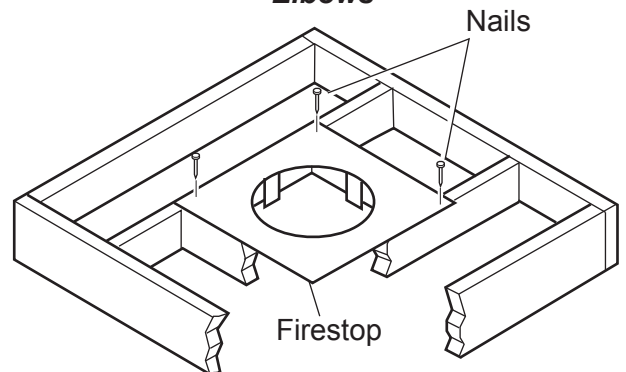
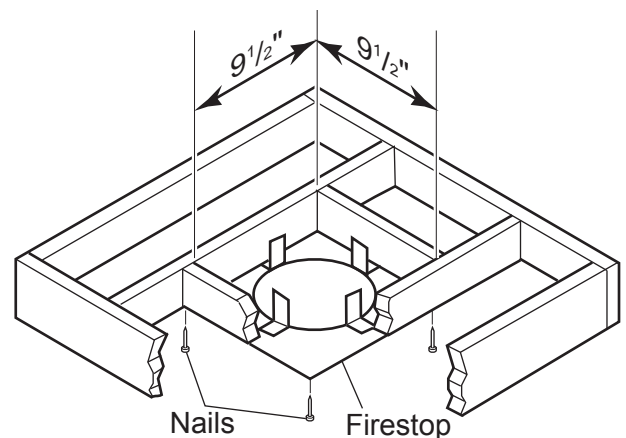

Figure 36 - If area above is a room, install firestop above framed hole as shown
Figure 37 - If area above is not a room, install firestop below framed hole as shown
1. Cut a 9 $\frac{1}{2}$ " (241mm) square hole in the ceiling using the locating hole as a center point. The opening should be framed to 9 $\frac{1}{2}$ "x9 $\frac{1}{2}$ " (241mm x 241mm) inside dimensions as shown in *Figure 37* using framing lumber the same size as the ceiling joist. If the area above the ceiling is an insulated ceiling or a room, nail firestop from the top side. This prevents loose insulation from falling into the required clearance space. See *Figure 36*. Otherwise, install firestop below the framed hole.